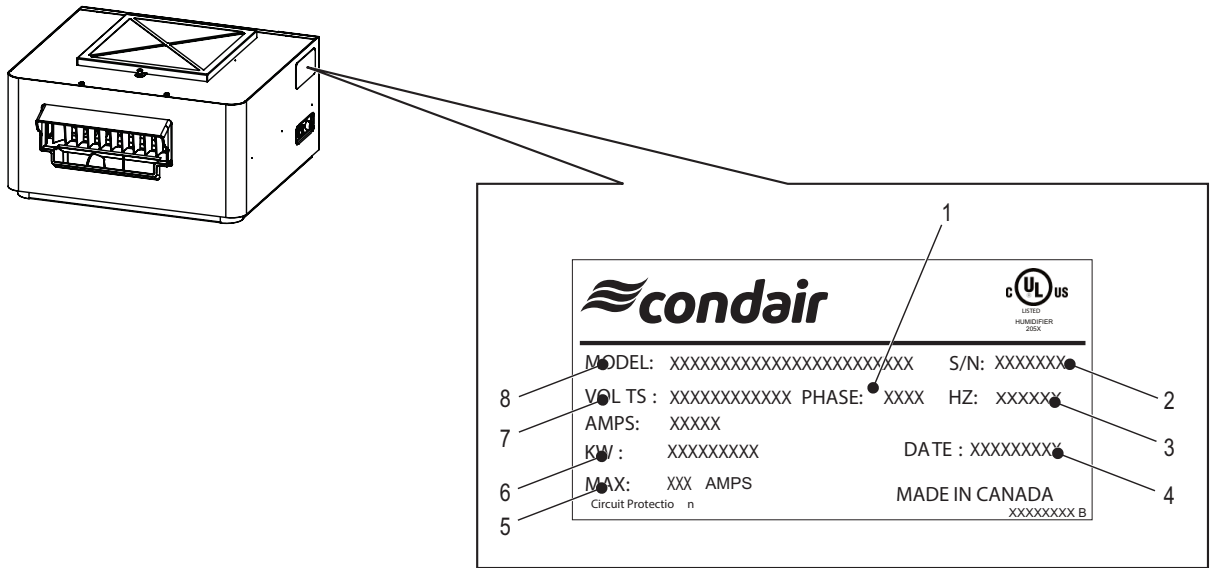

Figure 2: Specification Label
- Verify the model type on the specification label to ensure that it is suitable for your installation. Refer to Figure 2 on page 12.
The specification label on the side of the Nortec BP shows its model type, serial number and other ratings. Refer to Figure 2.
- The available voltage and phase of the power supply should match the requirements for the Nortec BP-Series blower pack, as indicated on the specification label. Refer to Figure 2 on page 12.